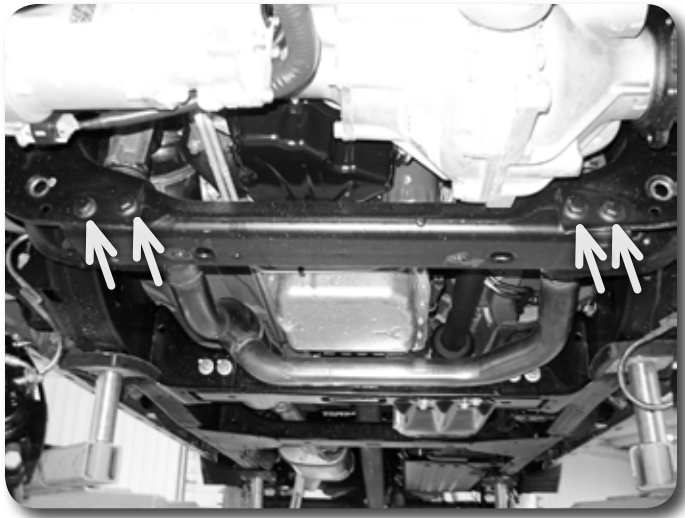

Figure 12
20. Remove the factory rear crossmember from the vehicle by removing the 4 bolts. **Figure 12.** Crossmember and hardware will not be reused.